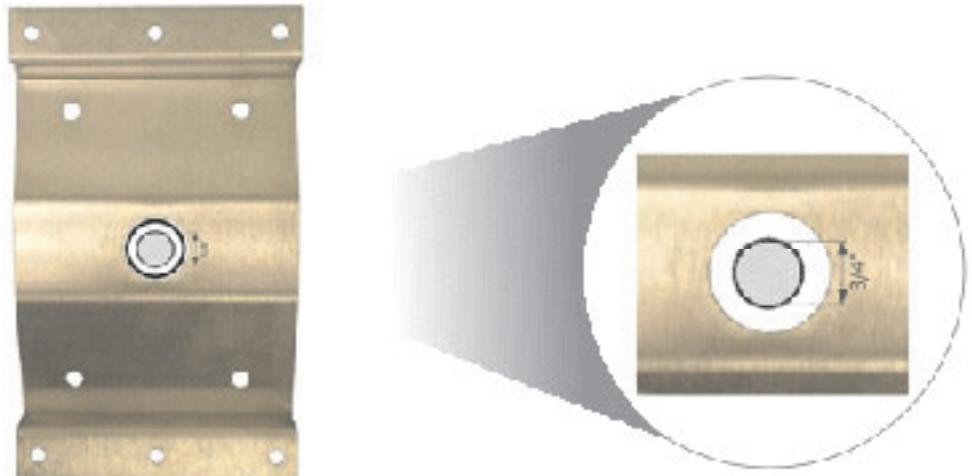

Figure 2
2. Remove the four screws (8-32 x 0.325) that attach the mounting bracket to the enclosure. Place the mounting bracket against the duct wall where the ELECTRA-flo/SD is to be mounted and trace the large probe insertion hole in the center of the bracket onto the duct. See Figure 2.